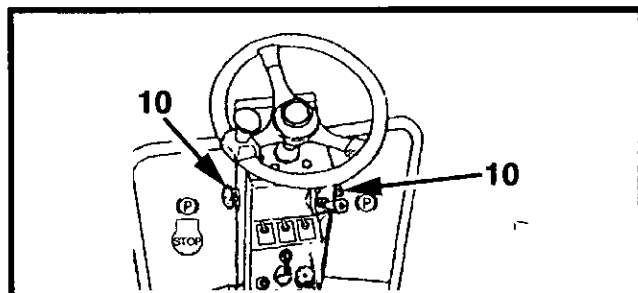

Figure 4-6 Engine Speed Control and Parking Brake Switch
5. Position engine speed control lever to Low **IDLE** position (12, Figure 4-6).
6. Apply parking brake control (P) by pulling outward on the knob (10, Figure 4-6).